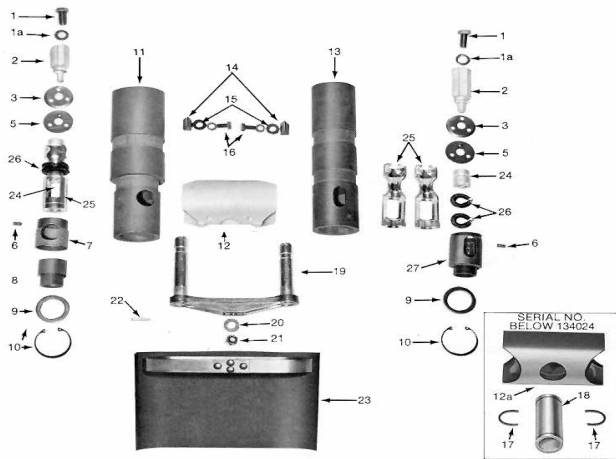

Figure 18. Arc-interrupting assembly parts identification
- C. Insert a 1/2- X 1/16-in. screwdriver through the stationary contacts to engage the contact stud slot. With a 3/4-in. box wrench, loosen the long hex terminal stud. Remove terminal stud, contact shoes, contact stud, and both retaining washers. Retaining ring need not be removed. Completely disassembled contact tubes are shown in the parts list (Figure 18 and Table 6).
Table 6. Parts list for arc-interrupting assembly (See Figure 18)